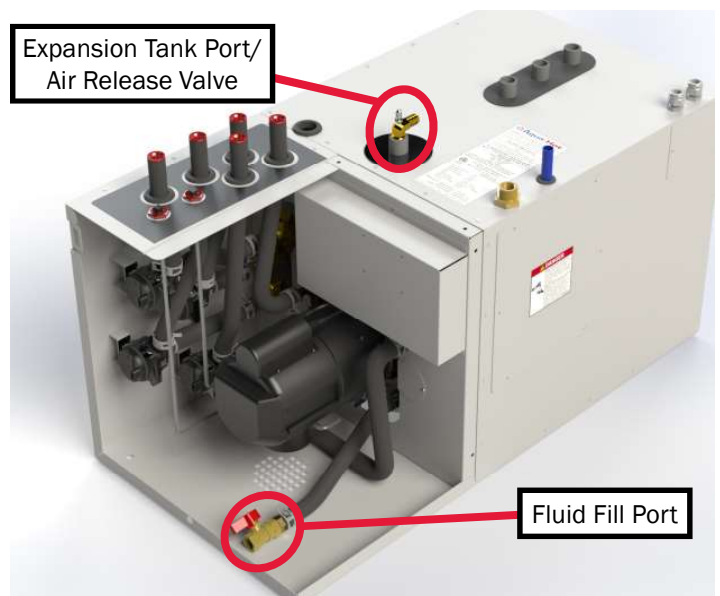

Figure 180
3. Open the Aqua-Hot's drain valve located at the front of the heater. Reference Figure 180.